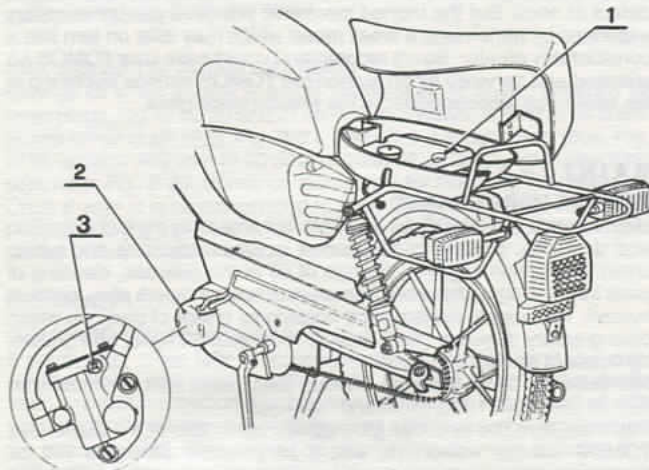

Fig. 6
Models TOMOS A3 BULLET TT, A3 GOLDEN BULLET TT LX and A3 GOLDEN BULLET are equipped with oil tank (Fig. 6/1) and oil pump (Fig. 6/2). For this reason the fuel tank must be filled with regular gas and the oil tank (Fig. 6/1) with the twostroke oil.
- Unscrew vent screw (Fig. 6/3) on the oil pump and wait until oil from the tank under the seat (Fig. 6/1) flows to the pump. The screw is then screwed on.
- Pour approx. 1 l (1/4 gall) gas mixture in the ratio 1 : 50 (2% oil) into the fuel tank and start the engine. Let the engine run for approx. 5 min so as to make the pump (Fig. 6/2) push oil to the engine.